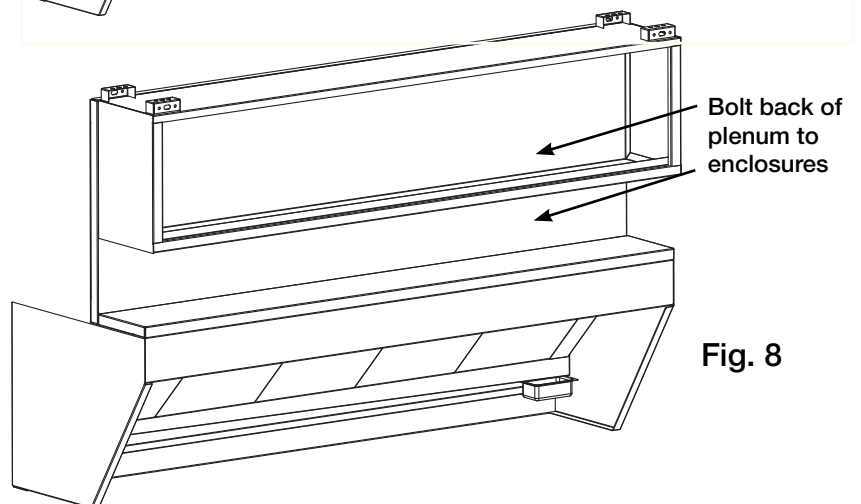

Fig. 8
3. Remove perforated panel from plenum and bolt to enclosures through back of plenum (Fig. 8). This will draw plenum tight to the enclosures. *Fasteners are not intended to support the plenum; for alignment purposes only.*